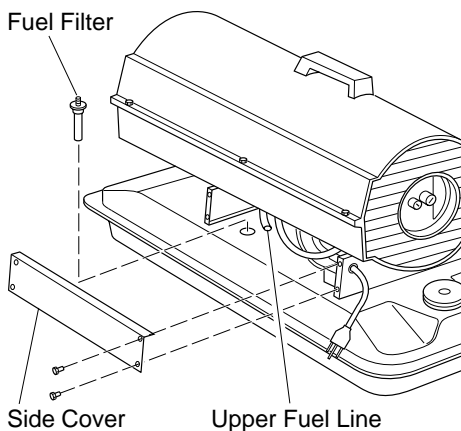
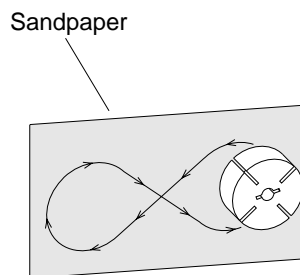

Figure 8 - Fuel Filter Removal
Figure 18 - Sanding Rotor
3. Remove 4 side cover screws with a 5/16" nut driver. Remove side cover (see Figure 8).
12. Replace side cover (see Figure 8).
2. Remove side cover screws using 5/16" nut driver (see Figure 8, page 8).
14. Place fine grade sandpaper (600 grit) on flat surface. Sand rotor lightly in "figure 8" motion four times (see Figure 18).